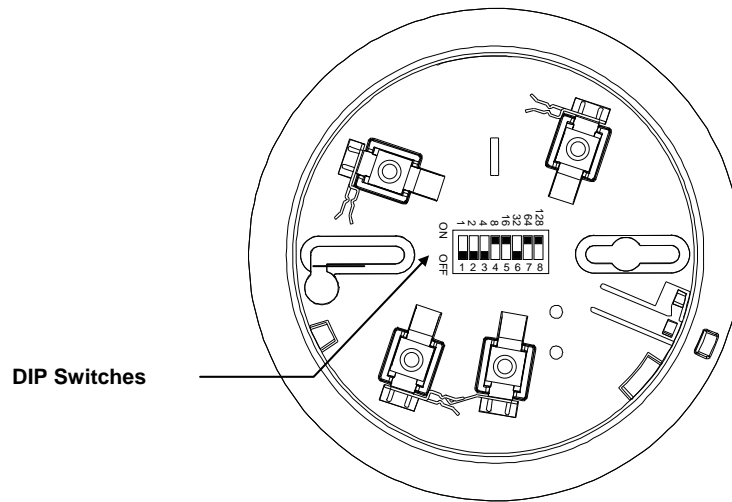
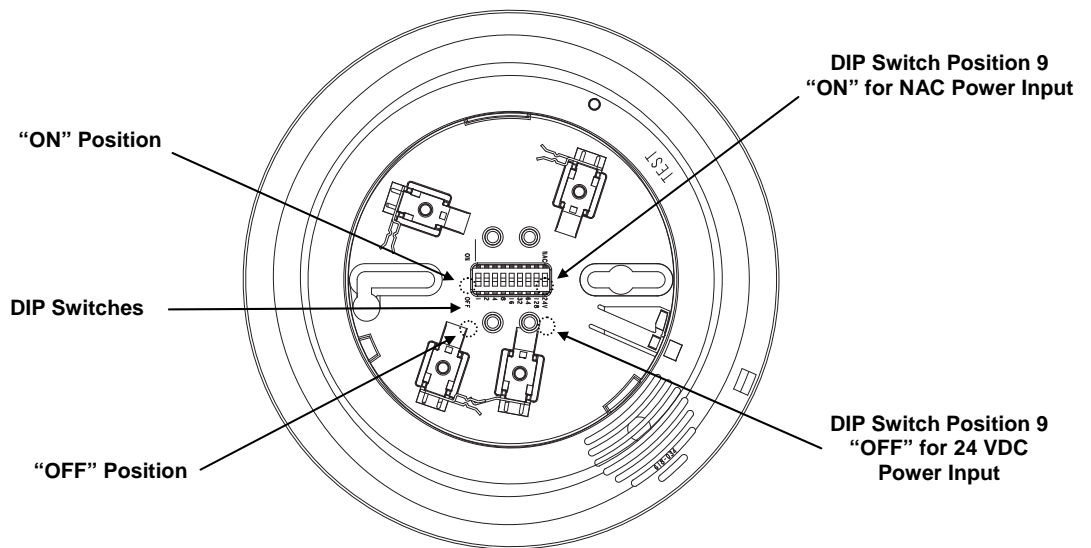
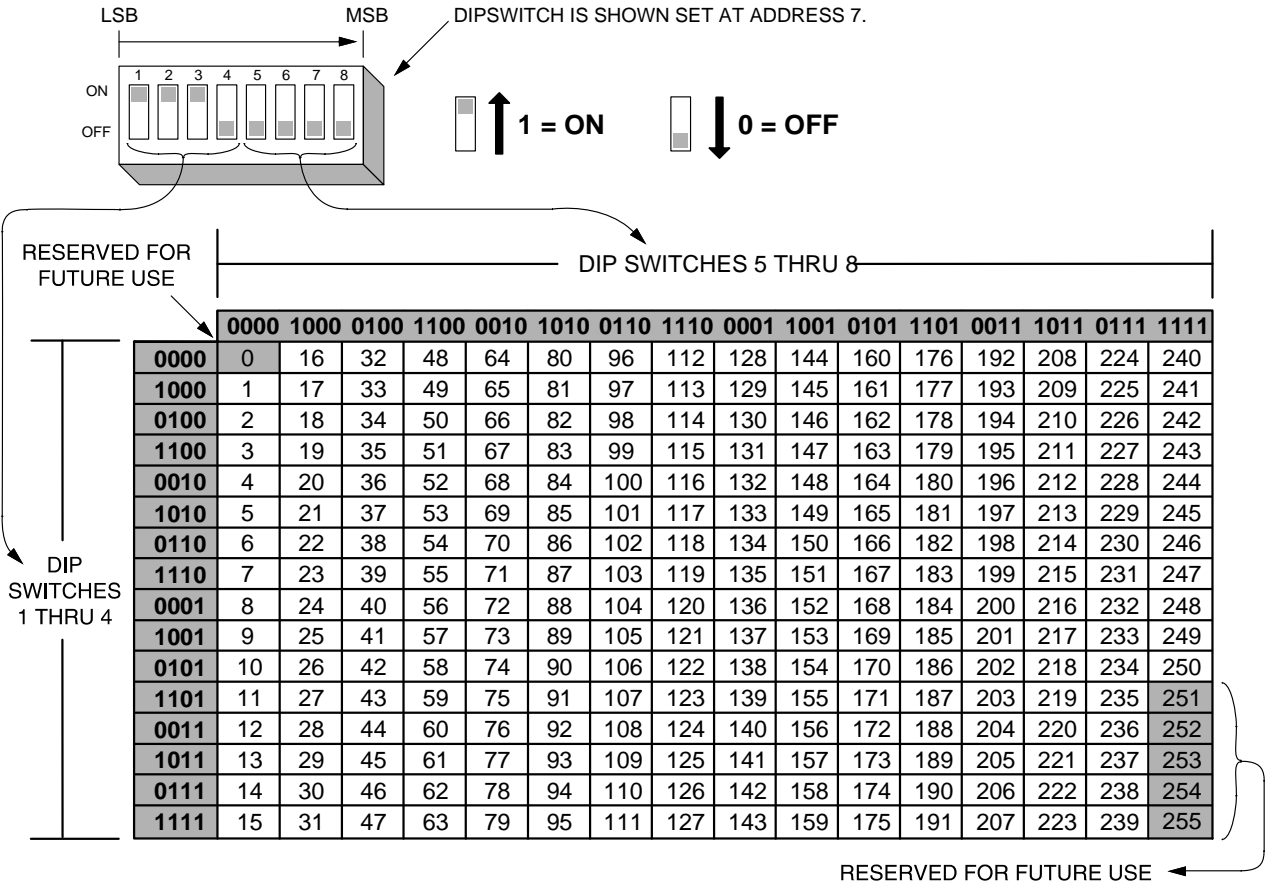

Figure 3-1. 4098-9789, -9791, -9792, -9793, -9796, Sensor Bases Location of DIP Switches
Figure 3-2. 4098-9794, 4098-9795, , 4098-9798 Sensor Bases Location of DIP Switches
Figure 3-5. 4010, 4020, 4100+, 4100U, 4100ES, 4008, or 4120 MAPNET/IDNet Addresses
Each sensor base has a unique address. This address is associated with a custom label that identifies its physical location within a building. The base's address and location must match up with the address listed in the specification sheets of the 2120 Job Configuration Report or the Programmer's Report for the 4020, 4100+, 4100U, 4100ES, 4120, 4008, or 4010 System. See Figure 3-1 for DIP Switch location for 4098-9789, -9791, -9792, -9793, and -9796, Sensor Bases. See Figure 3-2 for DIP Switch location for 4098-9794, 4098-9795, -9797 and -9798.
- Using the switch setting data for the base you are installing, set the base's address. See Figure 3-1 for location of switches. Use a small screwdriver or pen to set the switches.
- Using the example given in Step 1 as guideline, set the base's address using the information in Figure 3-5. See Figure 3-1 and 3-2 for location of DIP Switches. Use a small screwdriver or pen to set the switches.
Note: The 4098-9795 Multi-Sensor Sounder Base has a 9-position DIP Switch that is used for setting base address and selecting the sounder power source. See Figure 3-2 for DIP Switch location.